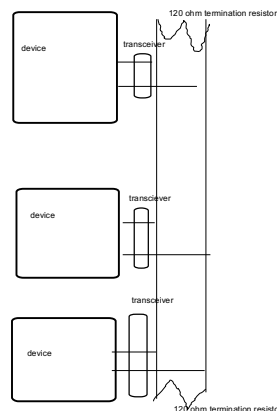

Figure 19.1: Three devices connected to the CAN bus.
A CAN bus consists of two wires, CANH and CANL, terminated with $120\ \Omega$ resistors at either end (see Fig. 19.1). The state of the bus is read as the difference between CANH and CANL. If $\text{CANH} - \text{CANL}$ is less than some threshold voltage, the state is said to be *recessive*, which corresponds to logic high (1). Likewise if $\text{CANH} - \text{CANL}$ is greater than a threshold voltage, the state is said to be *dominant*, which corresponds to logic low (0). The terms “recessive” and “dominant” refer to the priority that each state has on the bus: if any device attempts to set a dominant (logic low) state, then the bus will be in that state, even if other devices want a recessive (logic high) state. This mechanism gives some bits priority over other bits, and is used to determine which node gets to transmit when multiple nodes attempt to transmit, a process called arbitration.